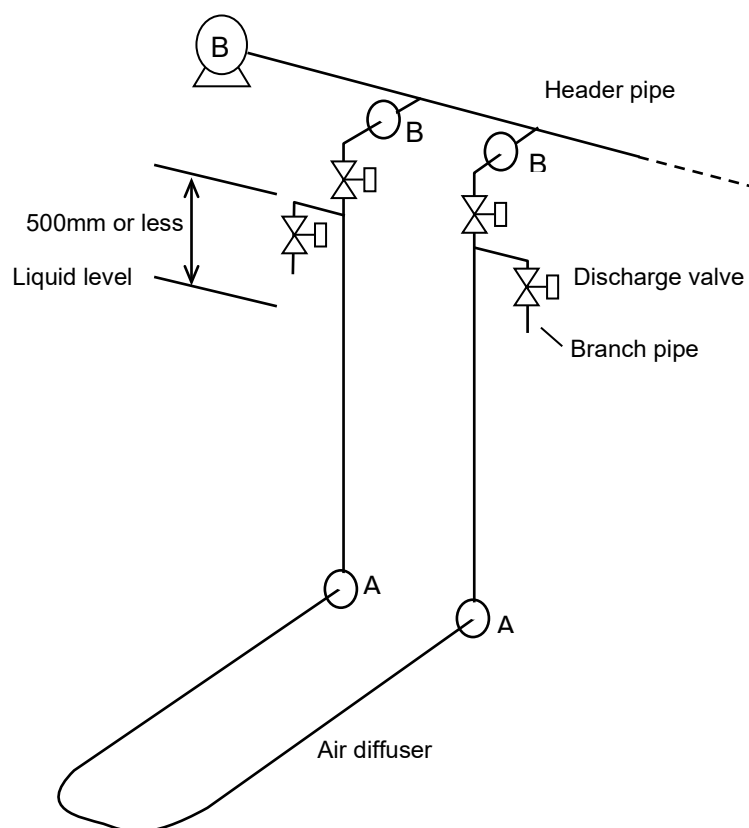

Fig.IV-9 Example of Piping to Air Diffuser
(1) Pipe Arrangement for the Air Diffusers
The pipe from the air supply device (blower) is connected to the two flanges (A) located on the air diffuser (see Fig.IV-9). When using polypropylene diffuser, heat tolerant plastic pipe and/or use of flexible pipe/joint is recommended for the pipe for easy flange connection without putting stress to the air diffuser. Also, it is recommended that the air supply flange (B) be installed above the tank liquid level to lift the module from the tank if necessary.
To facilitate cleaning of the air diffuser, install branch pipes and valves as illustrated in Fig. IV-9. It is recommended that these valves be located within 500 mm above the liquid surface. It is also highly recommended that these valves be automatically actuated valves with associated PLC control circuits for automatically controlled air diffuser maintenance cleaning. Refer to VIII-2 for the procedure recommended for cleaning the air diffusers.